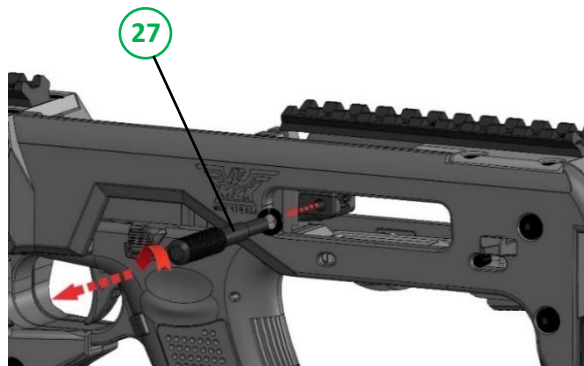
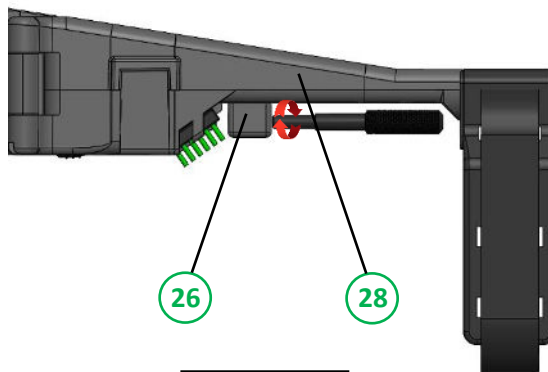

FIGURE 81
FIGURE 82
When you finish using the MCK, make sure to clear and empty your handgun, then unscrew the charging handle lever (27) from your handgun (FIGURE 81) and screw it with the washer into the stabilizer mounted charging handle lever storage (26) which is located on the stabilizer (28). Make sure that the charging handle securely tightened (FIGURE 82).